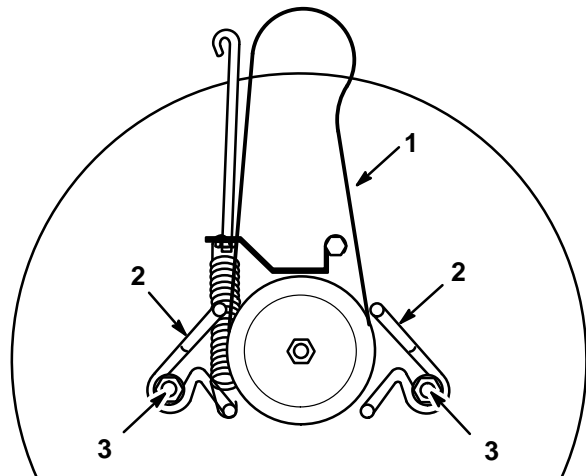

Figure 45
2. Loosen the belt guide mounting bolts and move belt guides away from the pulley (Fig. 45).
1. Install the new belt around the blade pulley and inside both belt guides (Fig. 45).
2. Adjust the belt guides so they are 1/8" (3 mm) away from the pulley and tighten mounting bolts (Fig. 45).